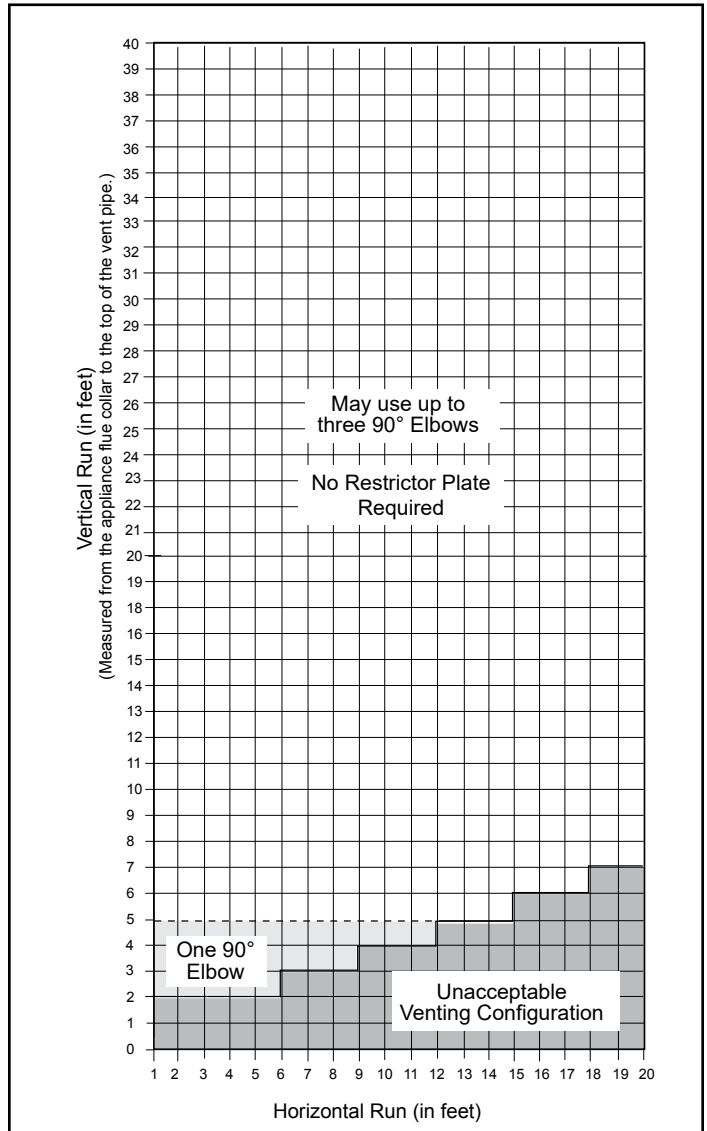

Figure 7 - Horizontal vent termination window.
The vent must rise vertically a minimum of 24" (610 mm) off the top of the unit, before the first elbow. The horizontal run may extend up to 20' (6m) and include a vertical rise of up to 40' (12 m). (Figure 7) Horizontal termination must also meet the criteria shown in Figures 10 through 12.
- Approved vent systems must terminate above and including the heavy line in Figure 7.